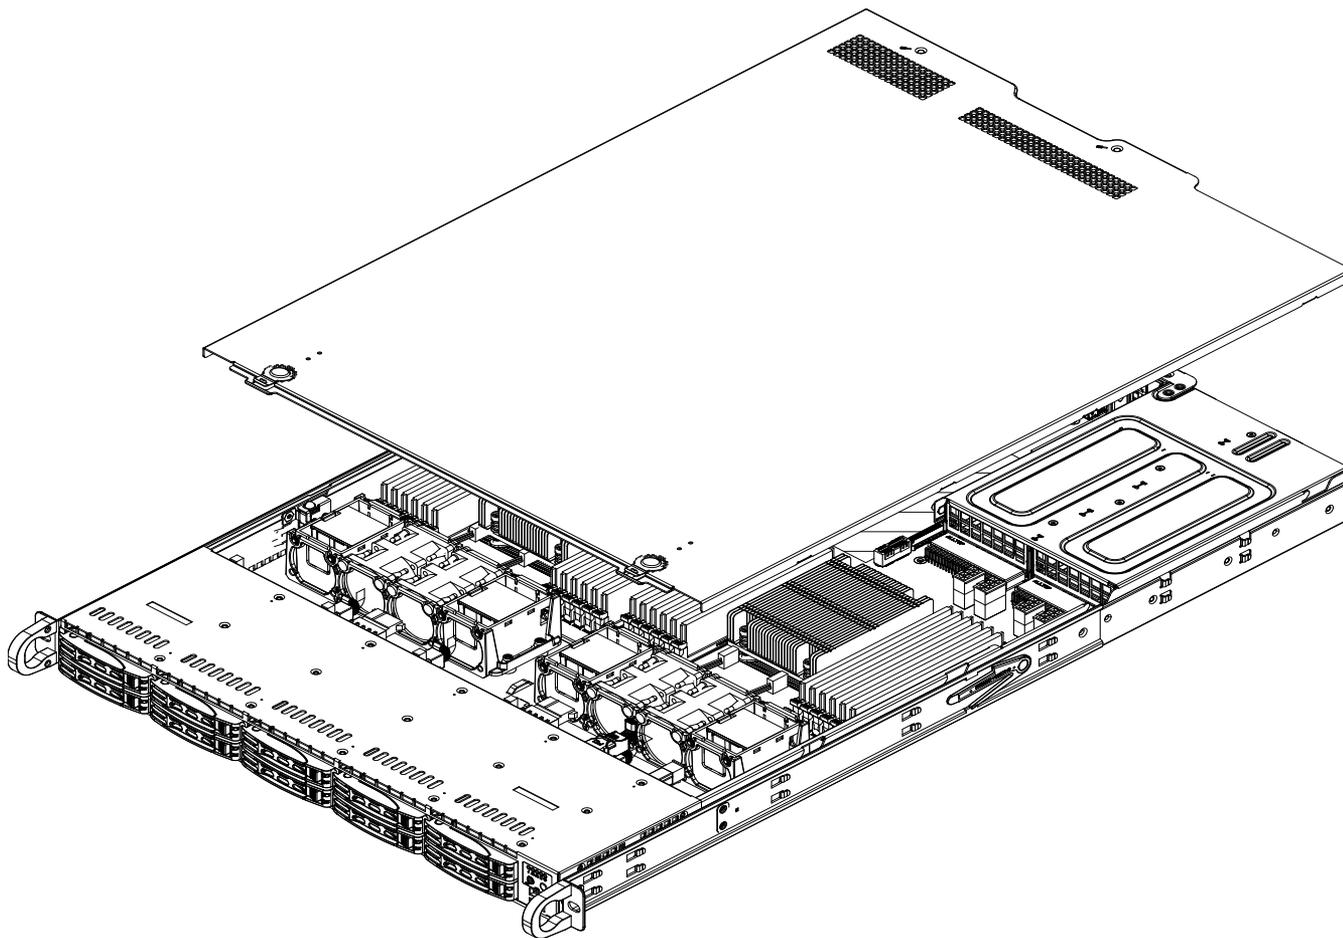

Figure 6-6 Cooling Fans Access Example
1. If you have not already done so, remove the chassis cover to access the fans, see the example in Figure 6-6 on page 54.